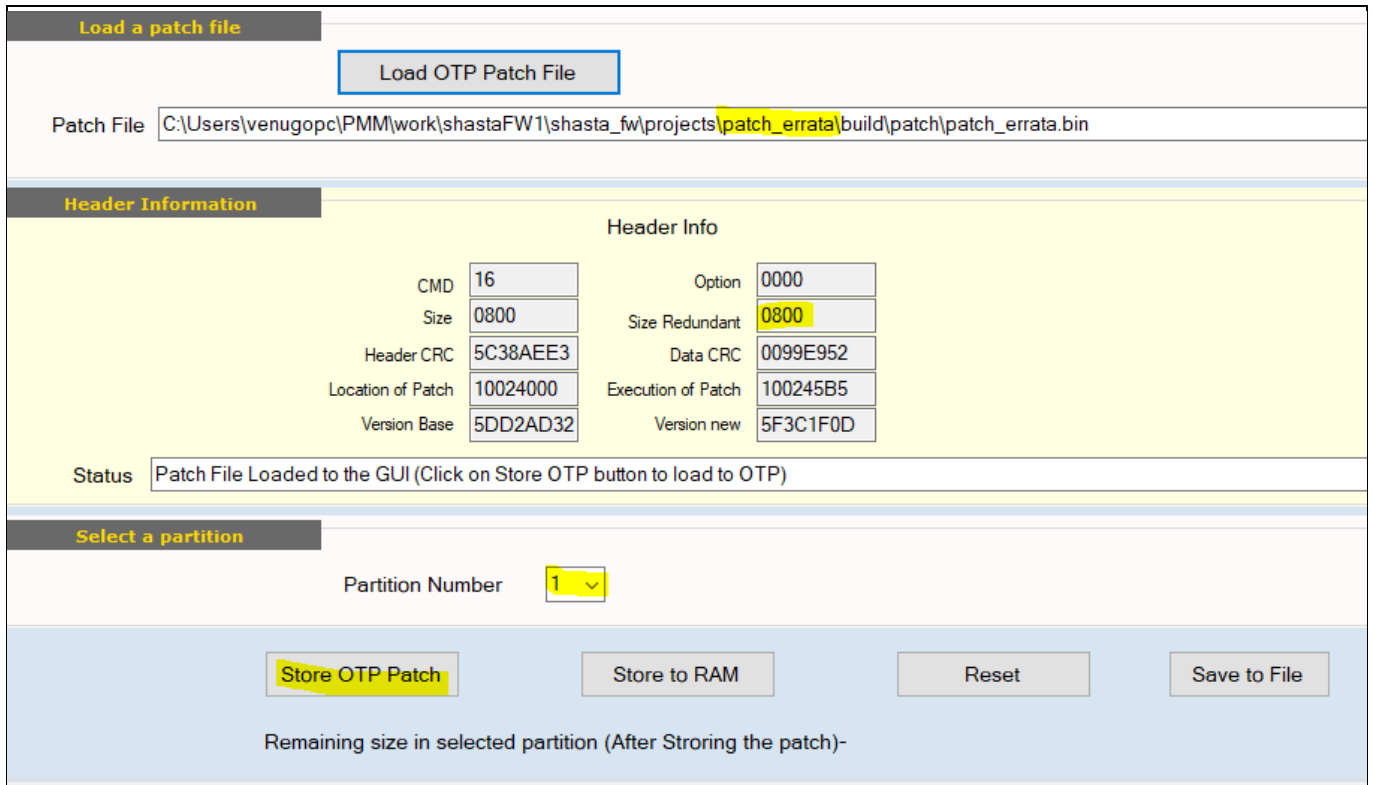

Figure 4 Store patch to partition 1 GUI display
- Store the updated patch in to the OTP in the same partition. **Figure 4** will demonstrate on storing a patch to OTP.